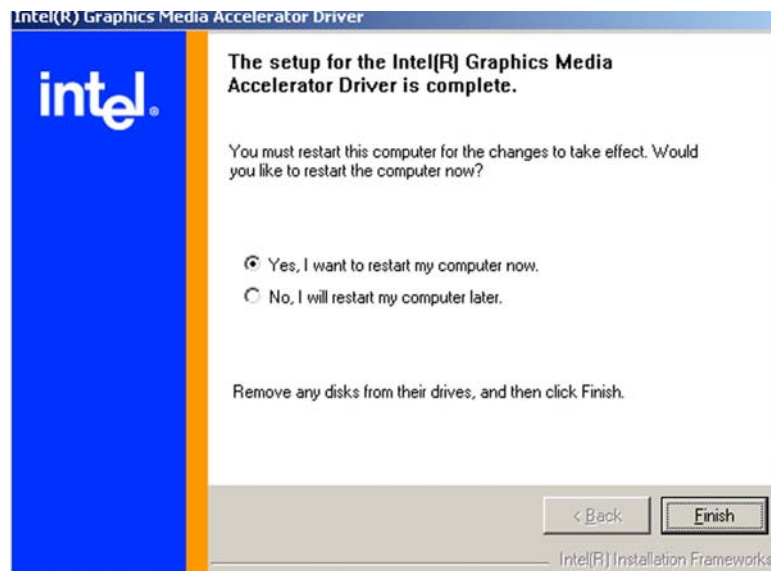

Figure 7-18: GMA Driver Installation Complete
Step 15: A confirmation screen shown in **Figure 7-18** appears.
Step 16: After selecting when to restart the computer in **Figure 7-18**, click **FINISH**.